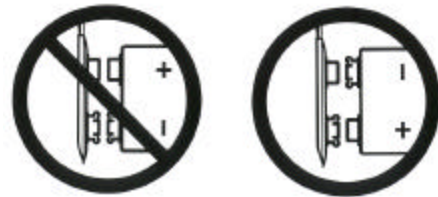

Figure 11: Smartap® Battery Connections
5. **CAUTION:** Verify battery connector alignment before making connection (Page 14, Figure 11).
Connect battery (Item 28) on manifold by pressing clip onto battery terminals (Figure 11).
24. Disconnect battery. The battery connection is a snap type connector (Figure 11).
27. **CAUTION:** Verify battery connector alignment before making connection (Figure 11).